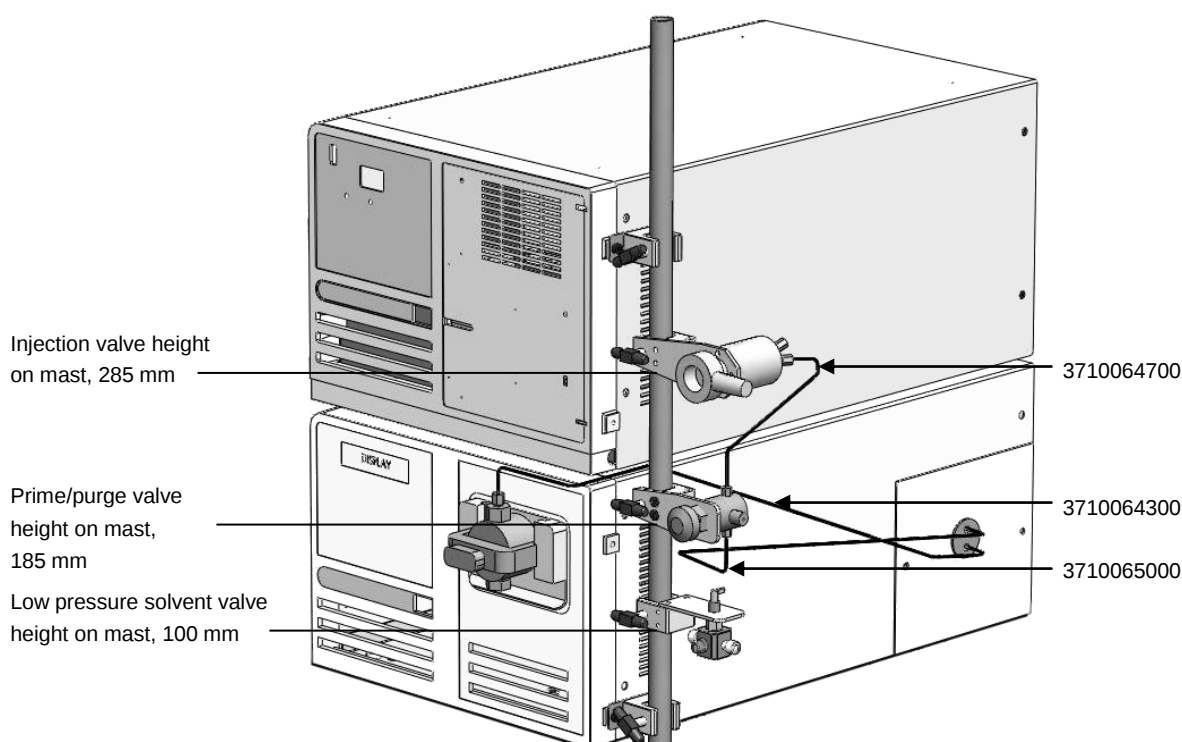

Figure 1. Tubing kit installed on an isocratic pump showing individual part numbers and component locations on the mast
Note See Figure 1 for the tubing locations.
3. Carefully route the tubing according to Figure 1. No additional bending of the tubing should be required.